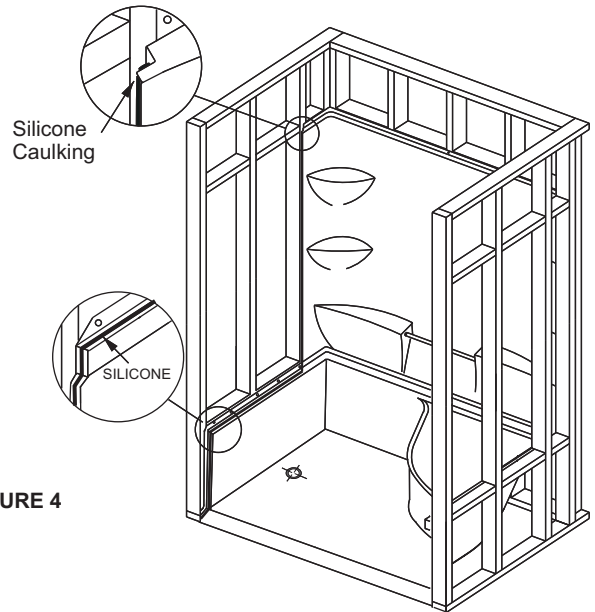

FIGURE 4
- Install the back wall section of the tub as shown figure 4.
- Apply a bead of silicone on the vertical flange of the back wall as shown in figure 4 detail. Repeat this step for the other side wall.